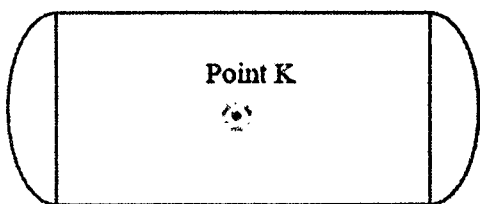
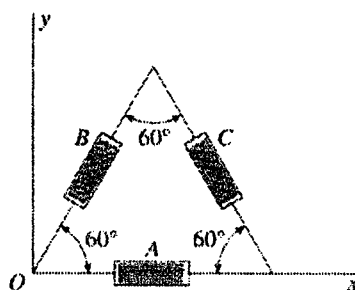

Fig. 3-1
Fig. 3-2
- A set of 60° strain gage rosette as shown in Fig. 3-2 is mounted at Point K on the outside of a cylindrical compressed air tank shown in Figure 3-1. The recorded strains are $\epsilon_a = 80 \times 10^{-6}$ and $\epsilon_b = \epsilon_c = 275 \times 10^{-6}$. The tank has a diameter-to-thickness ratio (d/t) of 50 and the modulus of elasticity E is 200 GPa. Determine (1) the air pressure in the tank, (2) the principal stresses at Point K, and (3) the absolute maximum shear stress at Point K. (25%)